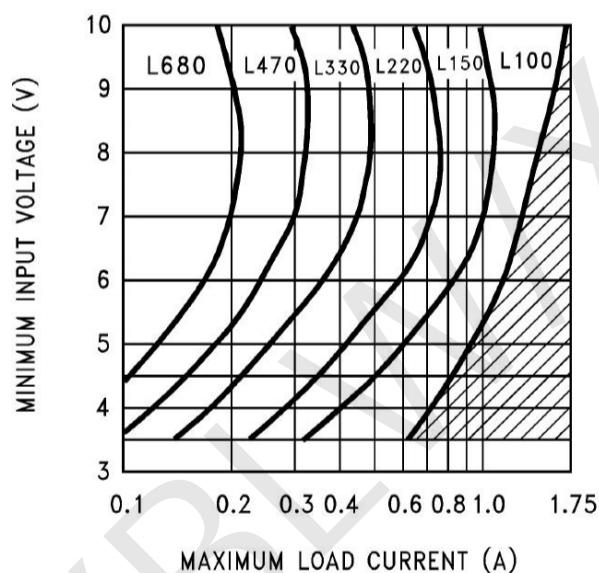
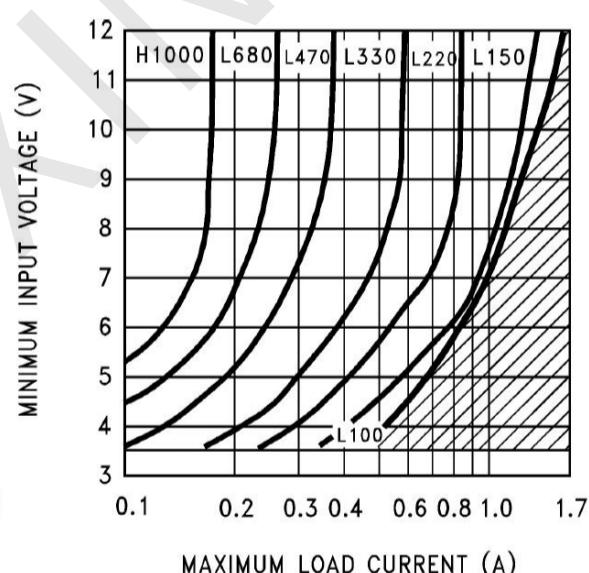

FIGURE 7. LM2577-12 Inductor Selection Guide
FIGURE 8. LM2577-15 Inductor Selection Guide
1. For 12V or 15V output From Figure 7 (for 12V output) or Figure 8 (for 15V output), identify inductor code for region indicated by $V_{IN\ (min)}$ and $I_{LOAD\ (max)}$. The shaded region indicates conditions for which the LM2577 output switch would be operating beyond its switch current rating.